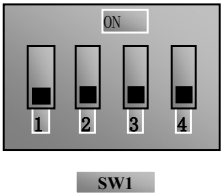

Fig 4-1 Coding Switch
4.2.1 A red four-digit coding switch SW1 is available around three-phase inverter’s control terminal block, as shown in Fig 4-1.